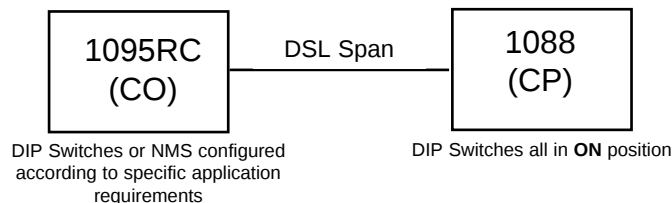

Figure 3. Typical NetLink Plug-and-Play Application
1. Set the Model 1095RC (CO) to either Internal or External clocking mode as defined by the application.
2. Set the Model 1088 (CP) to "NetLink Plug-and-Play CP" by setting S1 and S2 DIP switches in the ON position as described in Figure 3, below.